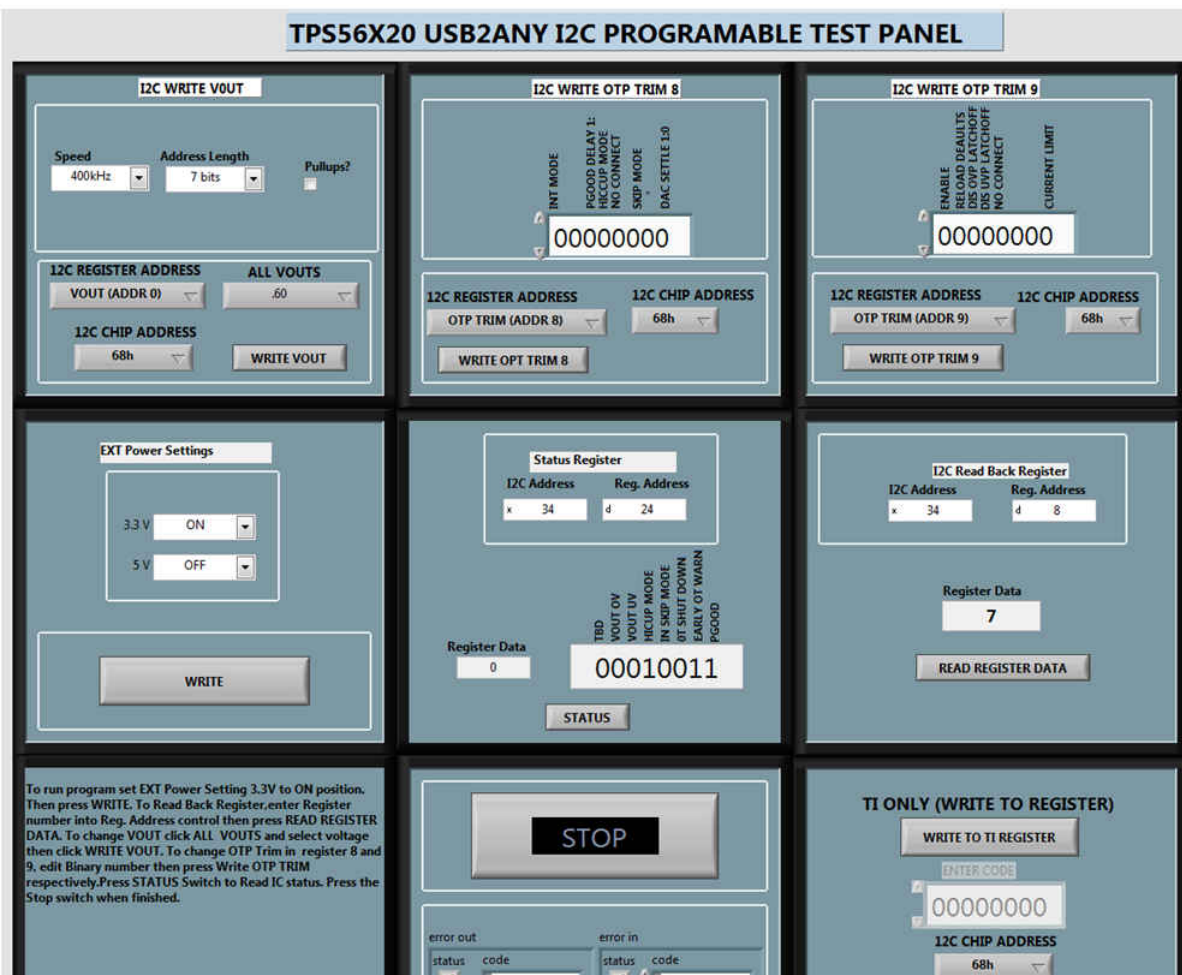

Figure 3-2. TPS56X20 I2C TEST PANEL
1. Go to Program Files and click on the TPS56X20 I2C TEST PANEL Application. The TPS56X20 I2C TEST PANEL will load as shown in Figure 3-2.